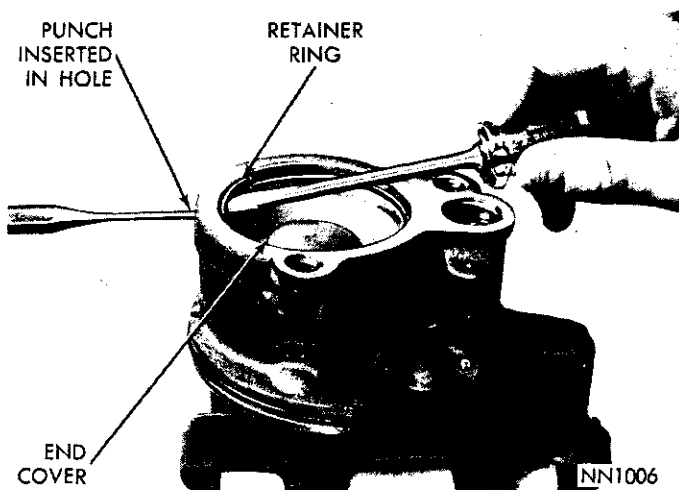
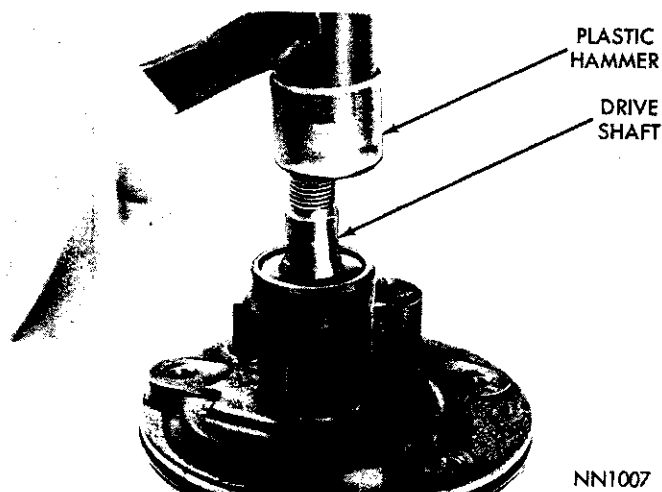
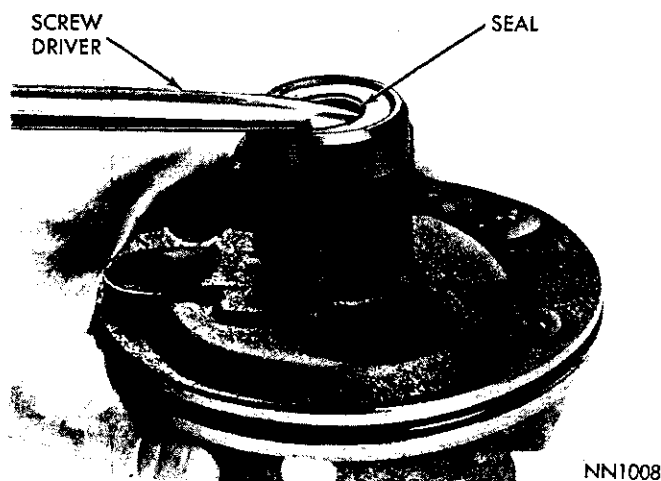

Fig. 7—Removing End Cover Retainer Ring
Fig. 8—Removing Drive Shaft Assembly
Fig. 9—Oil Seal Removal
(7) Using a punch, tap end cover retainer ring around till one end of ring lines up with hole in pump body. Insert punch in hole far enough to disengage ring from groove in pump bore and pry ring out of pump body (Fig. 7).
(8) Tap end cover with plastic hammer to jar it loose. Spring under cover should push cover up.
(9) Remove pump body from vise, place in inverted position on flat surface and tap end of drive shaft with plastic hammer to loosen pressure plate, rotor and thrust plate assembly from body. Lift pump body off of rotor assembly. Flow control valve and spring should slide out of bore also (Fig. 8).
(10) Remove and discard end plate and pressure plate "O" rings.
(11) Place pump body on flat surface and pry drive shaft oil seal out with a screw driver (Fig. 9).
(12) Inspect seal bore in housing for burrs, nicks